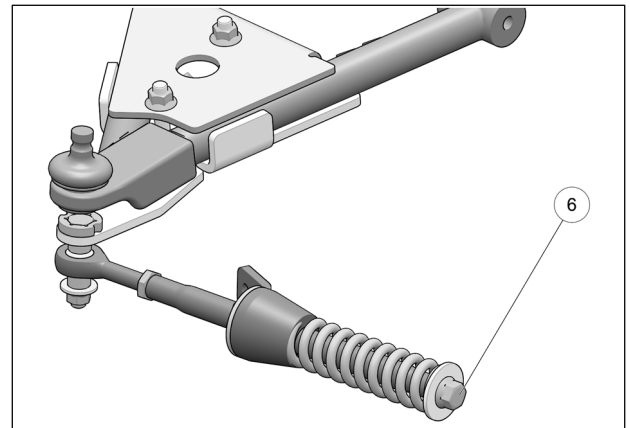

Fig. 15
8. Verify that spring assembly bolt (**6**) is tightened to the recommended torque specification: 75 N•m [55 lb•ft]. Refer to Fig. 15